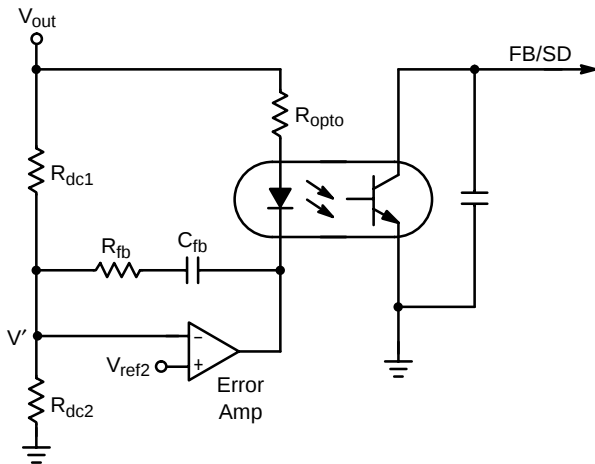

Figure 37. Error Amplifier Circuit
In the circuit of Figure 37, the amplifier and reference need to be rated at the maximum voltage that the output will experience, including transient conditions. Resistors  $R_{dc1}$  and  $R_{dc2}$  need to be chosen such that the voltage at  $V'$  is equal to  $V_{ref2}$  when  $V_{out}$  is at its regulated voltage.  $R_{opto}$  is a current limiting resistor that protects the optocoupler from current transients due to output surges.